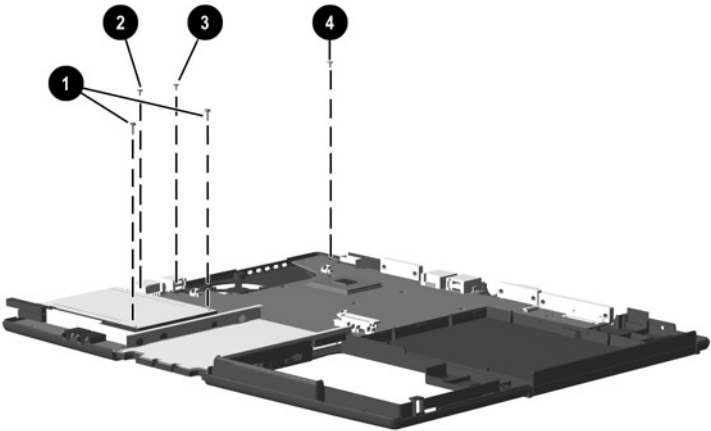

Figure 5-20. Removing the System Board Screws
5. Remove the following screws, as illustrated in Figure 5-20:
- ❑ two black M2 × 14.5 screws ❶ that secure the PC Card assembly to the base enclosure
- ❑ black M2.5 × 4.5 screw ❷ near the USB connector that secures the system board to the base enclosure
- ❑ black M2.5 × 4.0 screw ❸ that secures the modem connector/cable to the base enclosure
- ❑ black M2 × 4.0 screw ❹ near the display connector that secures the system board to the base enclosure